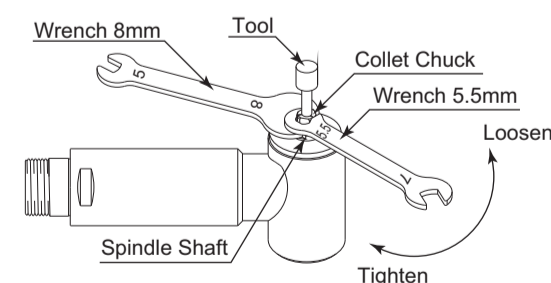

Fig. 3
- Remove the tool according to the section " 5. CHANGING THE TOOL" procedure above. (Fig. 3)